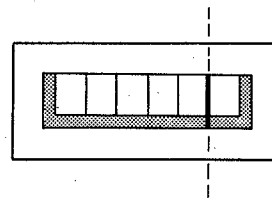

Fig. 6-6. Tracking meter set
4. Adjust R390/V1 Board so that the tracking meter indicates the fifth division from the left. See Fig. 6-6.